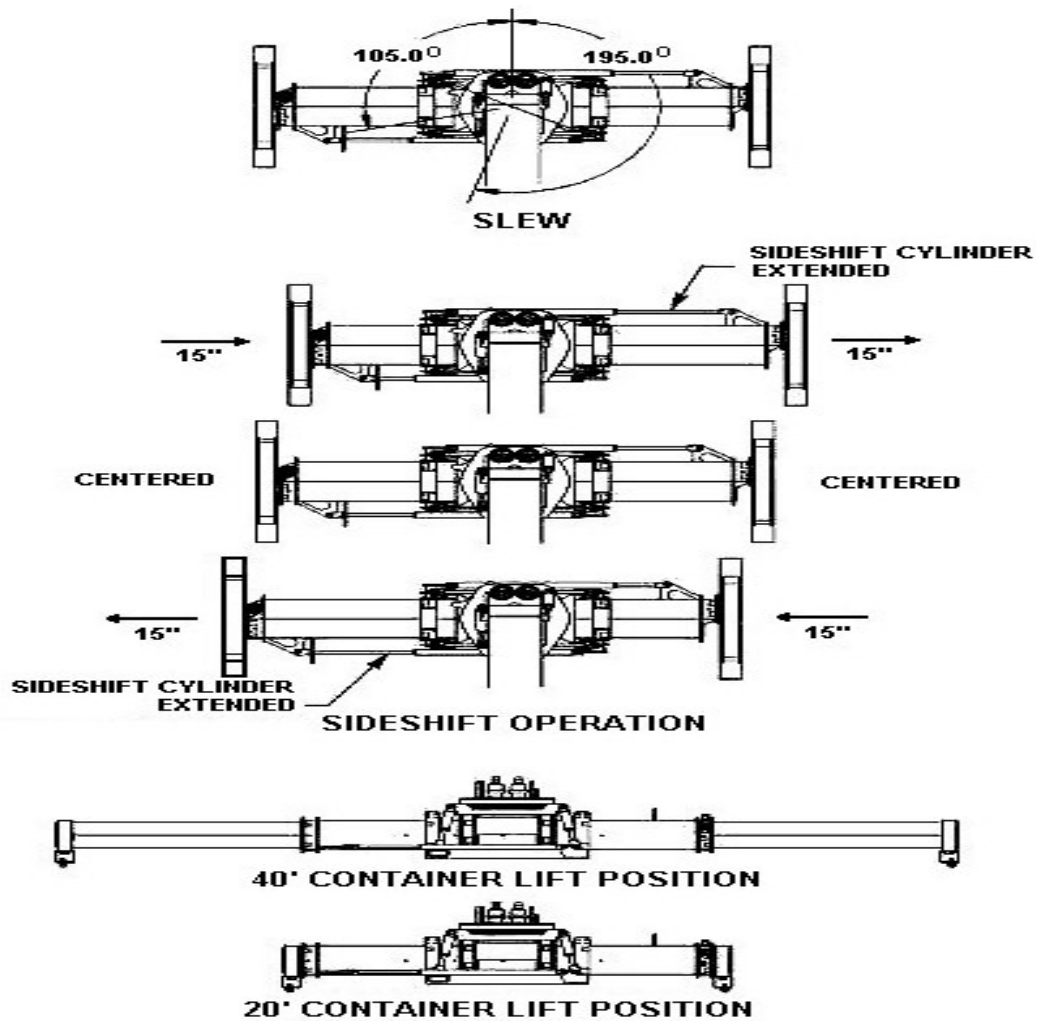

Figure 3-81
(1) Press left side of rocker switch to rotate load clockwise.
(2) Press right side of rocker switch to rotate load counterclockwise.
d. Use tophandler and forklift sides shift button (see Figure 3-81).
(1) Press right button to shift load to the right.
(2) Press left button to shift load to the left.
(3) Press right button and multiple functions trigger button to widen tophandler from 20 to 40 feet or to open forklift tines, if forklift kit is installed.
(4) Press left button and multiple function trigger button to close tophandler from 40 to 20 feet or to close forklift tines, if forklift kit is installed.